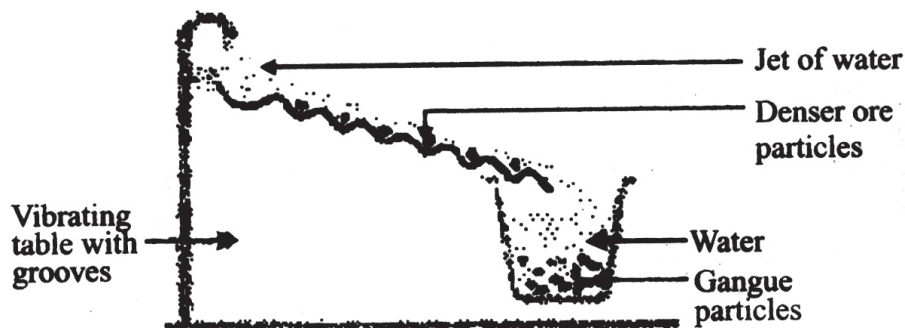

Fig. 18.3 : Gravity Separation (Hydraulic Washing)
- (i) **Gravity separation (Hydraulic washing) :** In this method, the light (low specific gravity) earthy impurities are removed from the heavier metallic ore particles by washing with water. It is therefore, used for the concentration of heavier oxide ores, like haematite (Fe_2O_3) tinstone (SnO_2) and gold (Au). In this method, as shown in the Fig. 18.3 the powdered ore is agitated with water or washed with a strong current of water. The heavier ore settles down rapidly in the grooves and the lighter sandy and earthy materials (gangue particles) are washed away.